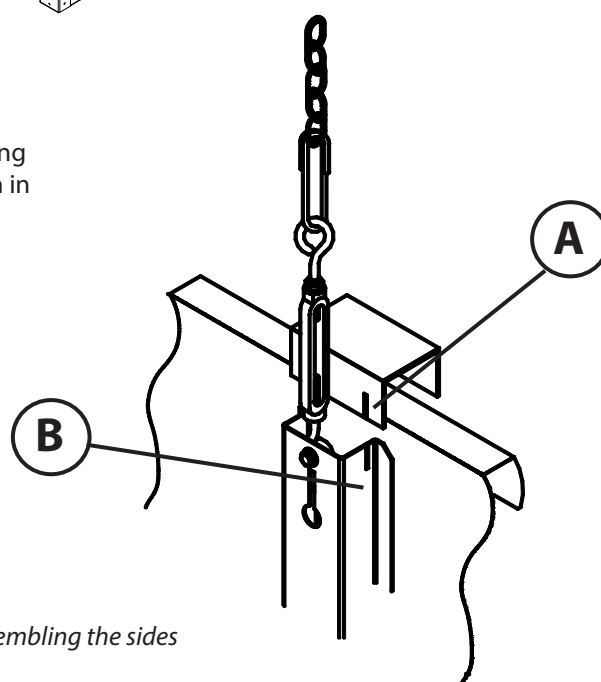

Fig.4.26 Assembling the sides
- 7) Fix the sides in place with their supports (see fig. 4.26).
To fit the sides to the brackets, fit the “U” shaped support by clicking it into the slots (A), so that the slits in bracket (B) line up as shown in fig. 4.26.